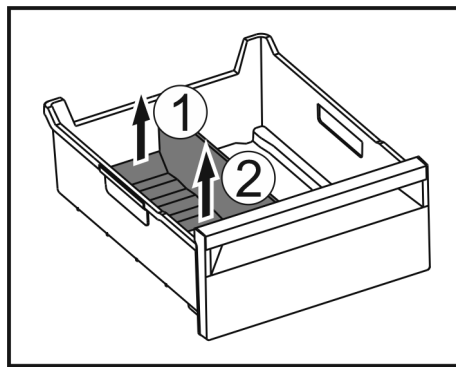

Fig. 157
- ▶ Lift the rear part of the ice compartment divider. Fig. 157 (1)
- ▶ Remove the ice compartment divider upwards. Fig. 157 (2)